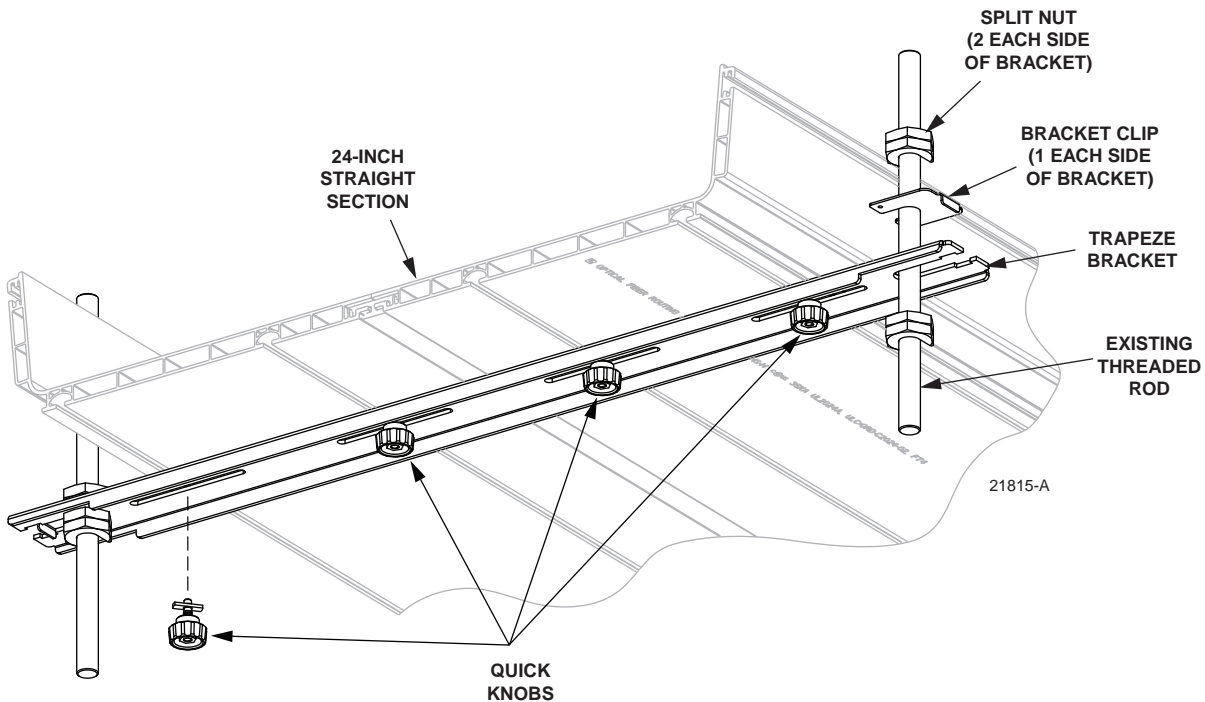

Figure 2-44. Installing 24-Inch Trapeze Support Existing Threaded Rod Bracket Kit
Install a trapeze support existing threaded rod bracket kit in the following order, referring to Figure 2-44.
1. In the approximate desired position, install two bottom split nuts shown in Figure 2-44. Install each nut as follows:
3. Install a bracket clip and second split nut on each threaded rod (above the trapeze bracket, as shown in Figure 2-44).